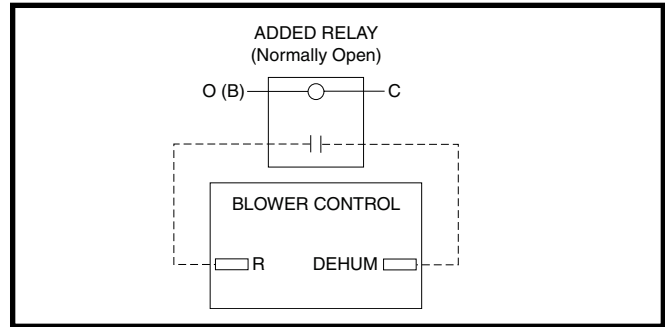

Figure 24. DEHUM Wiring Configuration without Humidistat
- If a humidistat is not available, it is an acceptable option to connect the **R** & **DEHUM** via a field supplied normally open relay. See Figure 24 above. The **R** & **DEHUM** terminals should be connected across the normally open relay terminals. The **O (B)** & **C** terminals should then be connected across the relay coil. This option causes the blower to run at a reduced CFM for 10 minutes after a call for cooling.